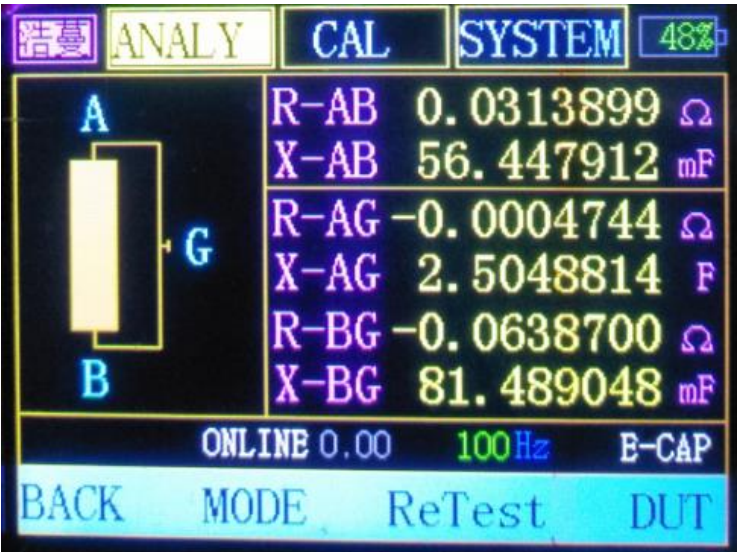

Figure 4-8 Calculation results
(7) Press the "NEXT" key to complete the calculation, and the word turns yellow. As shown in Figure 4-8. The term "X-AB" is the measured capacitance.